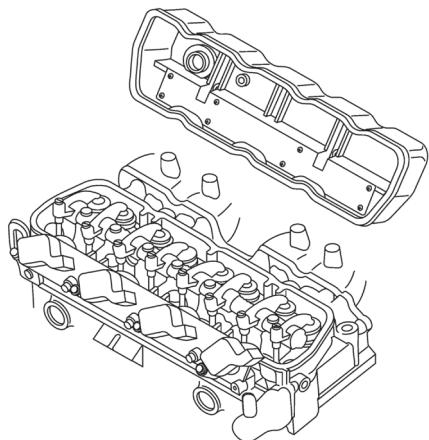

Figure 3
- 3) Remove the engine rocker arm cover from the cylinder head (Figure 3).